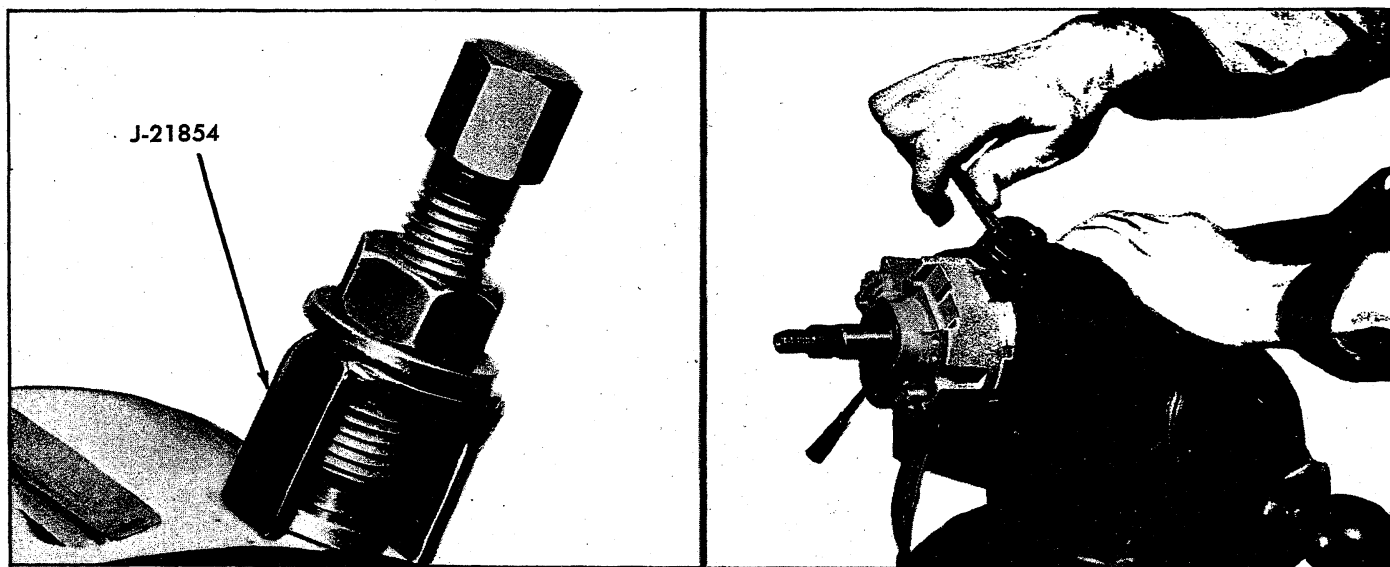

Fig. 40—Removing Pivot Pins Using Pivot Pin Removal Tool J-21854
12. Remove two pivot pins from bearing housing using pivot pin remover Tool J-21854 (fig. 40).